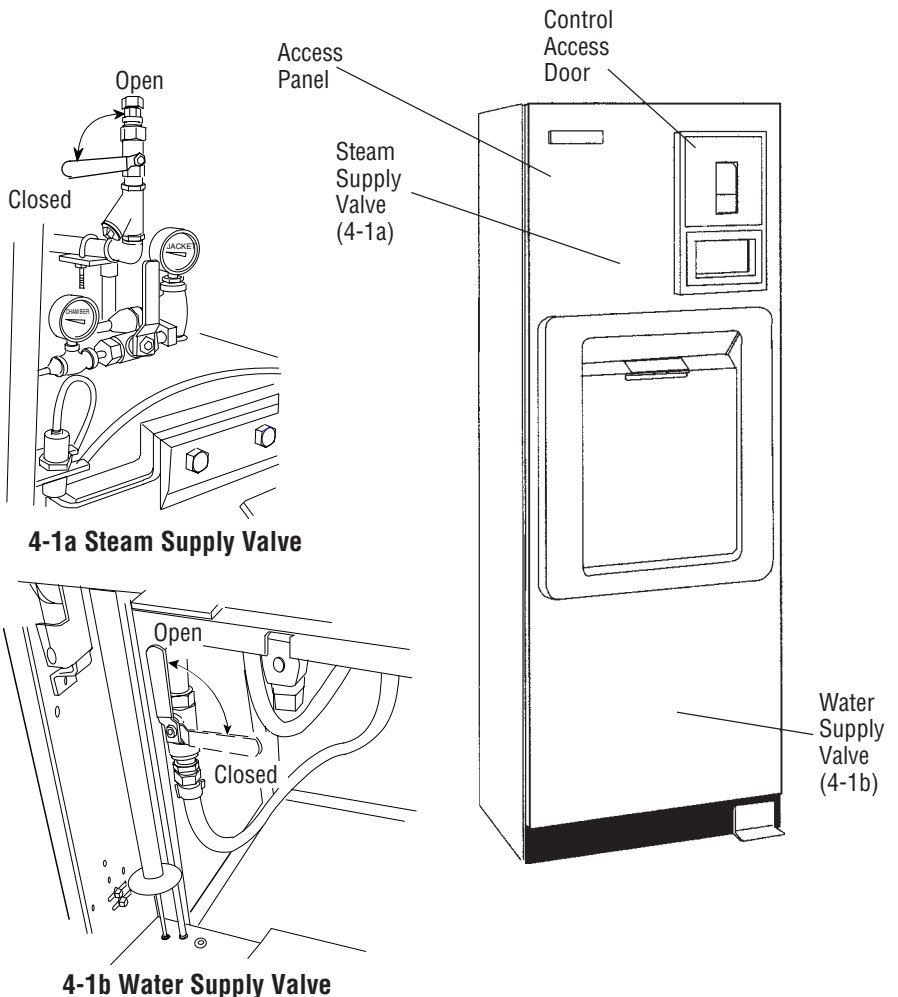

Figure 4-1. Steam Valves
3. Open access door on the operating end of the sterilizer — refer to Figure 4-1. Turn on steam (Fig. 4-1a) and water (Fig. 4-1b) supplies. Close access door.